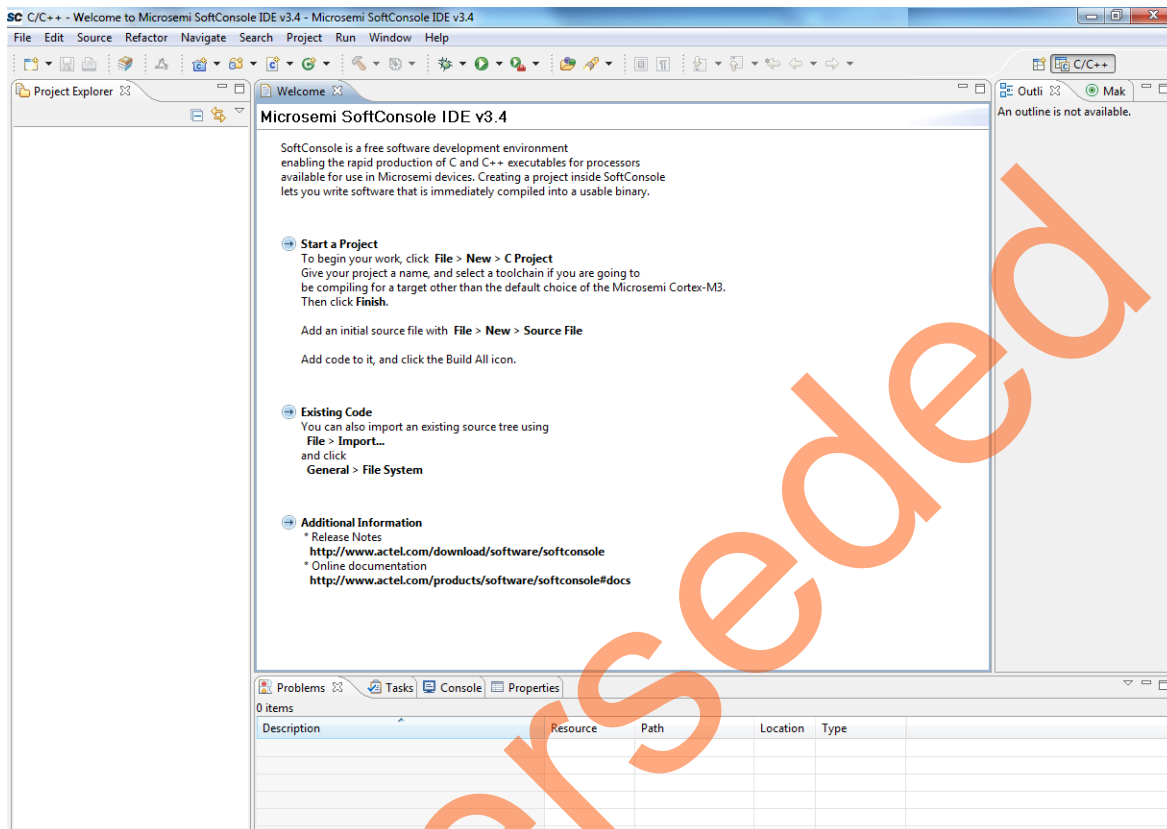

Figure 20 • Invoking SoftConsole
1. Launch the SoftConsole IDE as shown in Figure 20.